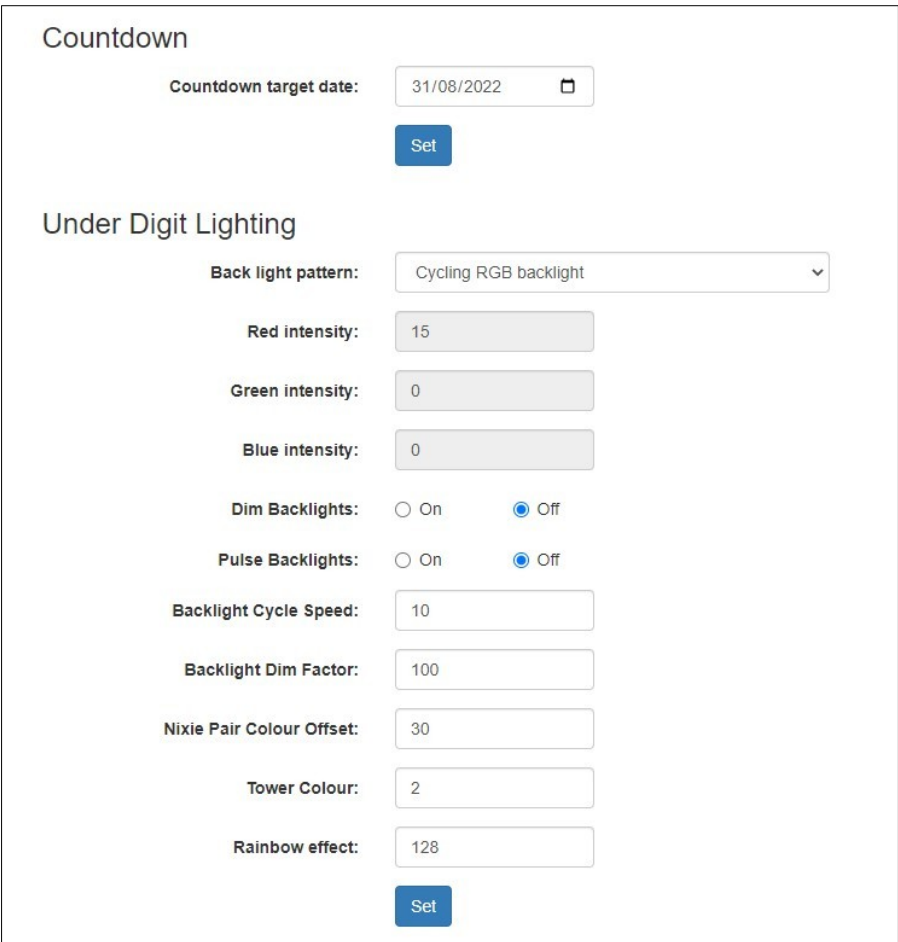

Fig.21 ENIAC Web Countdown and Under Digit Lighting Screen
36. After making a change you must then click the blue ‘SET’ button at the bottom of the options section for the ENIAC to then execute the changes. As you continue to scroll down the “Configure clock settings” page, you will then come across the next section that details the Countdown mode and the Under Digit Lighting (fig 21.)